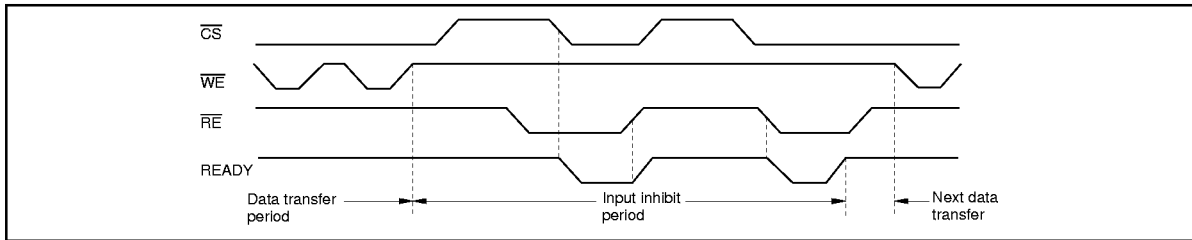

Figure 13 READY Output Timing (When It Is Made Available by \overline{CS} and \overline{RE})
- b. READY is mode available by \overline{CS} and \overline{RE} (Figure 13).